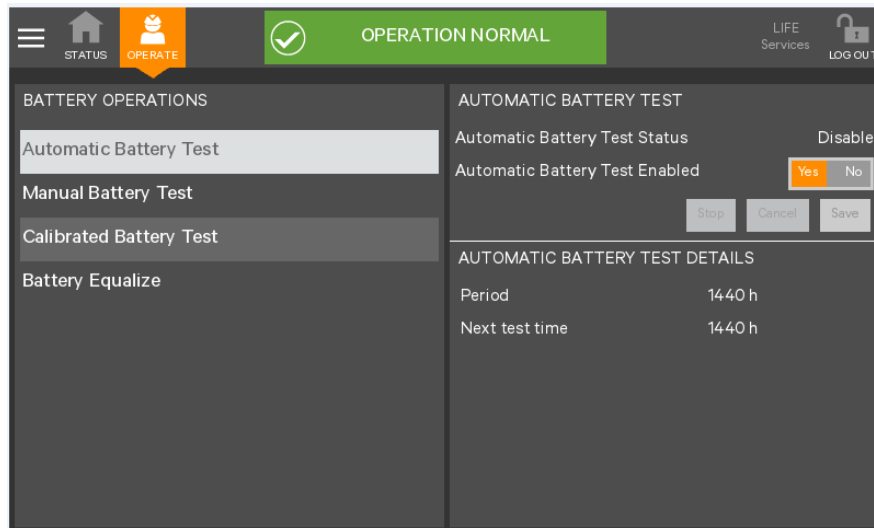

Figure 5-10 Battery management interface
4. Click the 'Battery Operations' to display the interface shown in Figure 5-10.